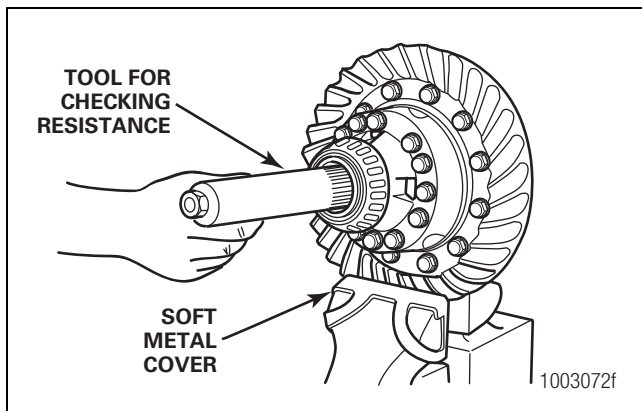

Figure 5.48
2. Place the differential and ring gear assembly in a vise. Install soft metal covers over the vise jaws to protect the ring gear. Figure 5.48.
3. Install the tool into the differential until the splines of the tool are engaged with one side gear. Figure 5.48.